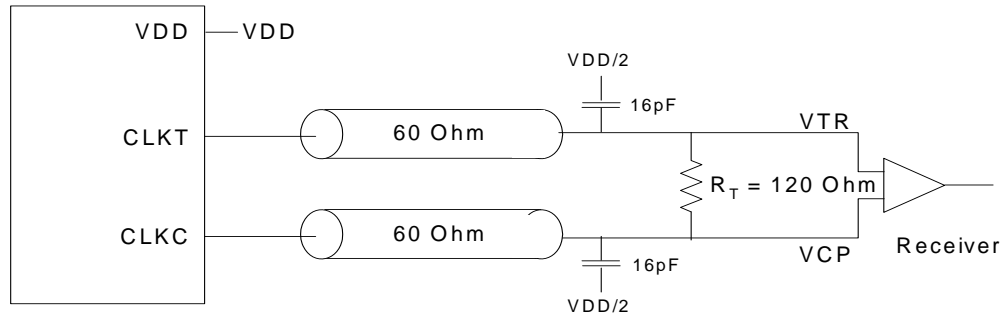

Figure 6. Differential Signal Using Direct Termination Resistor
- For load conditions see *Figure 6*.
- The value of V_{OC} is expected to be $|V_{TR} + V_{CP}|/2$. In case of each clock directly terminated by a 120Ω resistor. See *Figure 6*.
- All outputs switching loaded with 16 pF in 60Ω environment. See *Figure 6*.
- All differential input and output terminals are terminated with $120\Omega/16 \text{ pF}$ as shown in *Figure 6*.